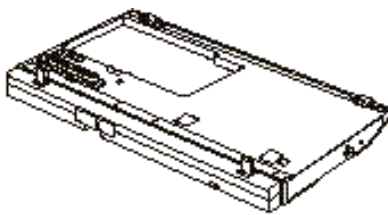

Figure 5-14 Positioning the Detachable Bay for Battery Installation
2. Set your Detachable Bay right side up with the rear panel toward you on a flat surface. (See Figure 5-14.)